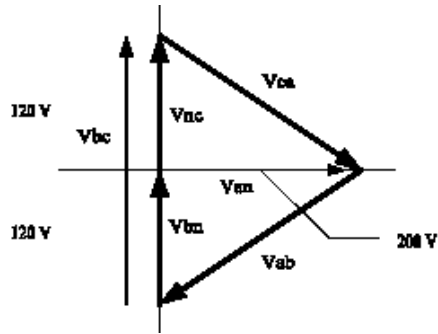

Fig 1.5: Phasor diagram showing Three-phase, Four-wire Delta Connected System
- Another common delta connection is the four-wire, grounded delta used for lighting loads. In this connection the center point of one winding is grounded. On a 120/240 volt, four-wire, grounded delta service the phase-to-ground voltage would be 120 volts on two phases and 208 volts on the third phase. Figure 1.5 shows the phasor diagram for the voltages in a three-phase, four-wire delta system.